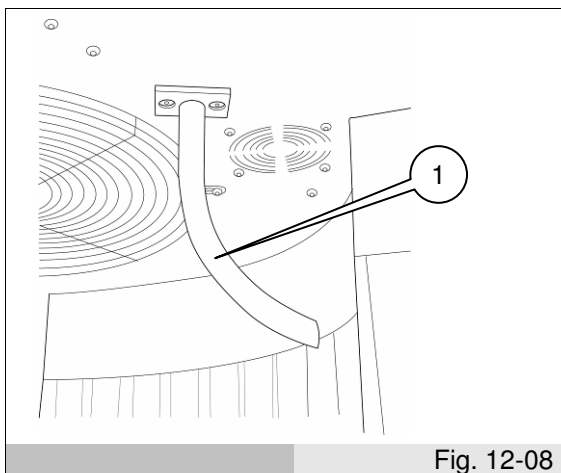
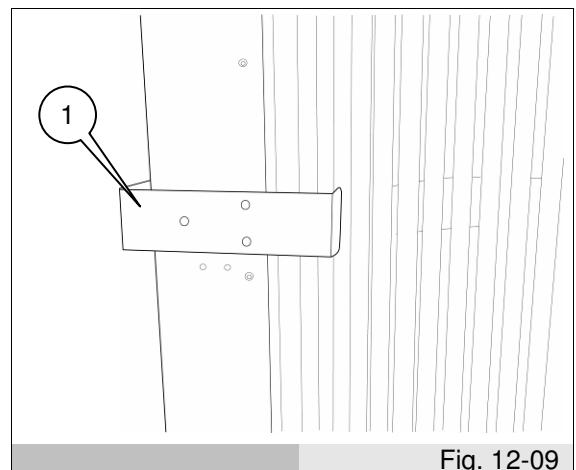
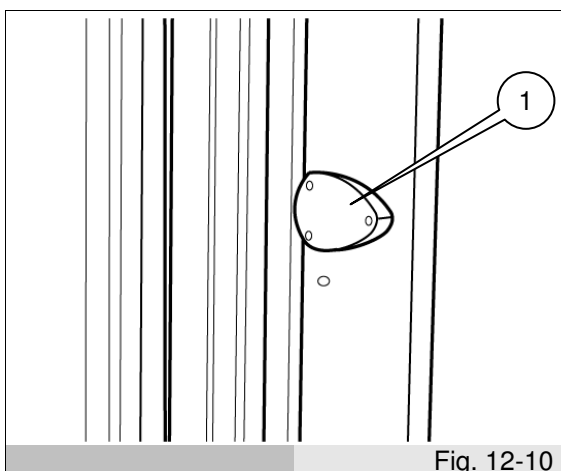

Fig. 12-08
Fig. 12-09
Fig. 12-10
- Using the relative screws, attach the roof support handles (ref. 1 fig. 12-08), the door handle (ref. 1 fig. 12-09) and the door's Plexiglas rabbet (ref. 1 fig. 12-10).